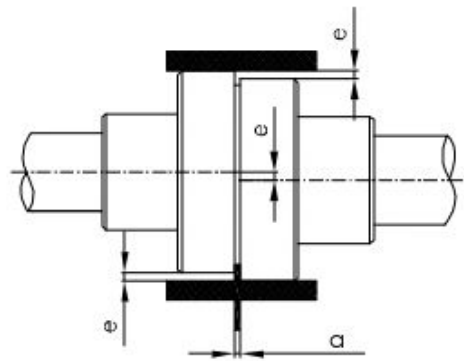

Fig. 3. Aligning a flexible coupling
• To control parallel sliding error, straight edged steel ruler is pressed down on one half of the coupling in parallel to the axis. It is checked against the other half. Straight edge must touch to the both half couplings completely same at all points in each vertical and horizontal planes (**Fig. 3**).